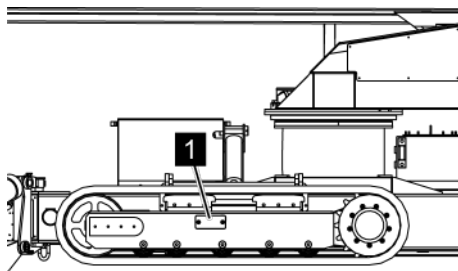

Fig. 154: Lid and cover
- 10.** Put the lid (Fig. 154/1) back on.